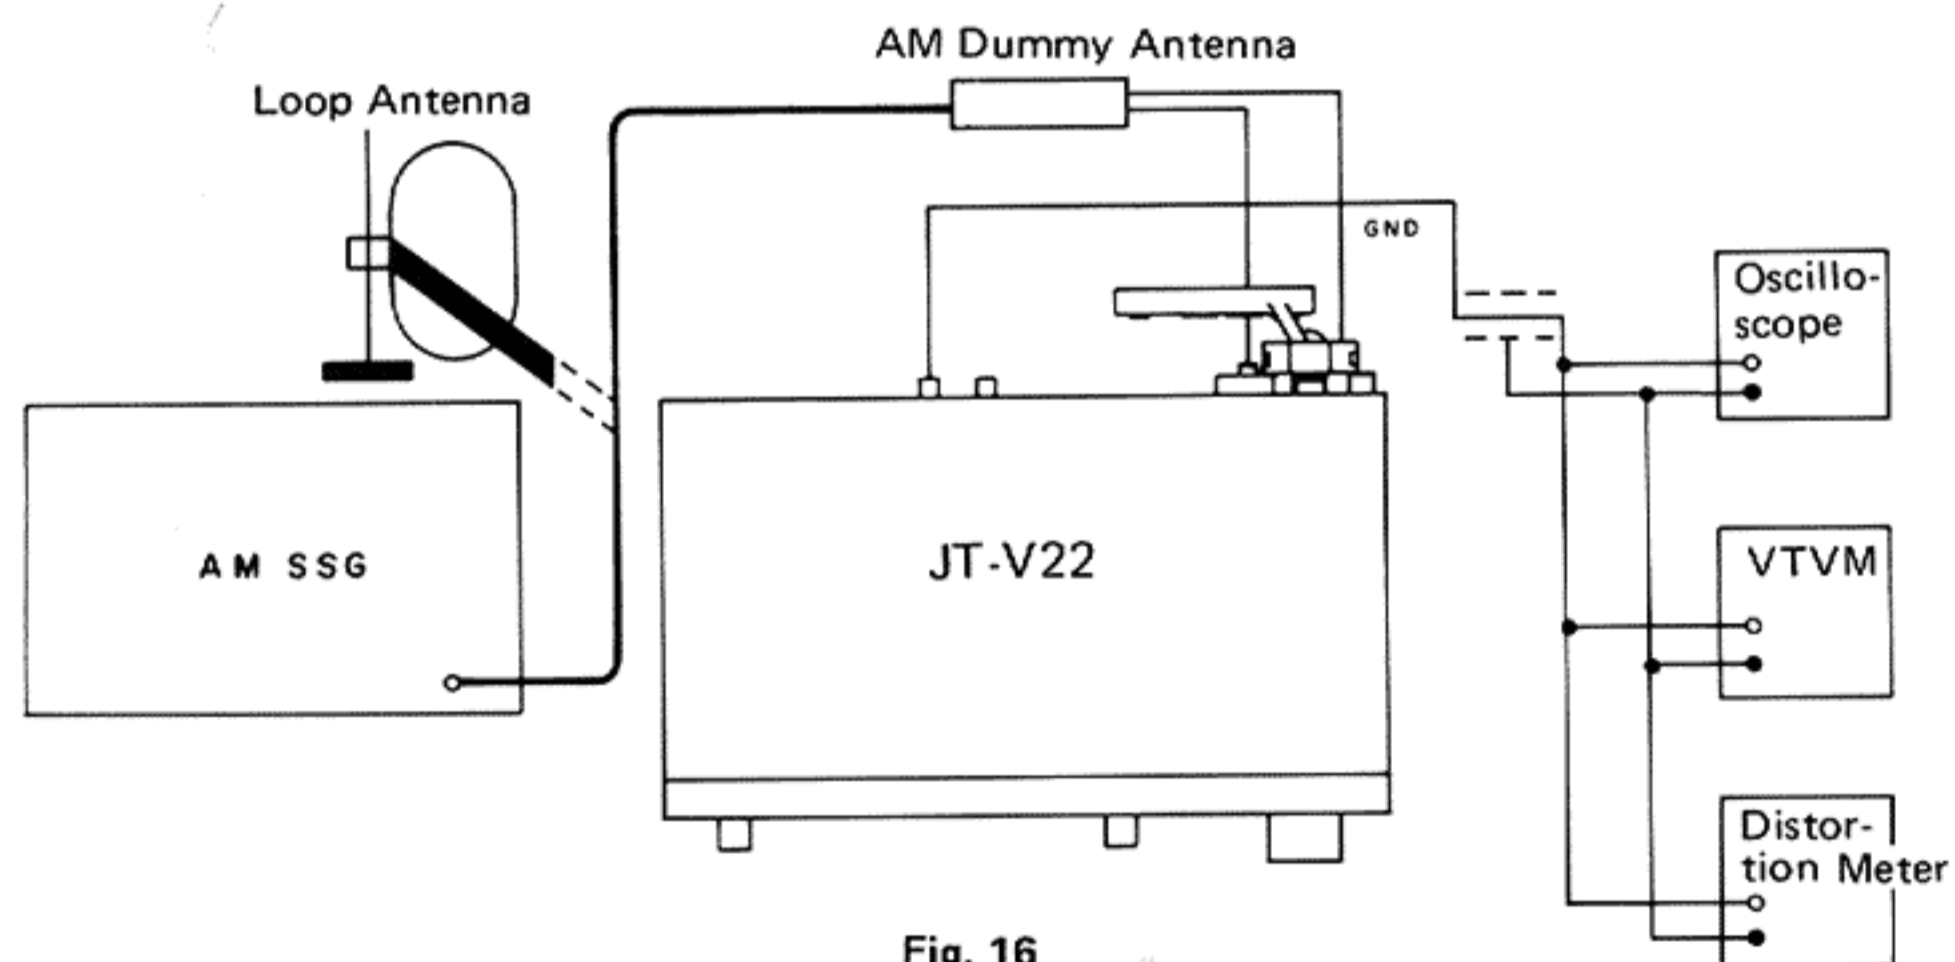

Fig. 16
1. Connect an RF generator to the antenna terminals on the rear panel (or, connect a standard loop antenna to the output terminals of RF generator, and place the bar antenna at least 2 feet from the loop antenna). Then, set this to 600 kHz with 30 % modulation at 400 Hz. See Fig. 16.